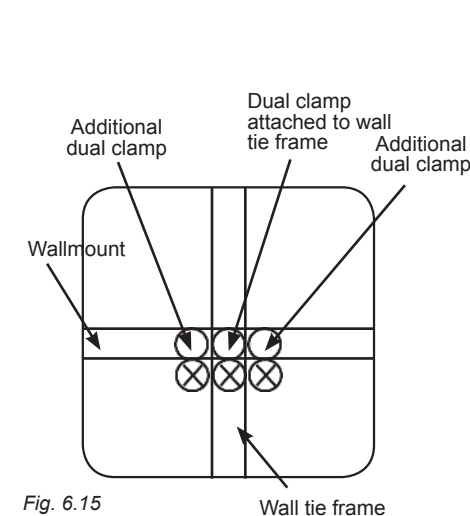

Fig. 6.15
- 7- In a configuration using 3 planks or more, back or forward extensions, long outriggers or weather protection, attach additional dual clamps on the wallmount in front and behind the wall tie frame dual clamp previously installed (fig. 6.15). Make sure all bolts are tightened. Refer to the *Installation of dual clamps* procedure, on p. 39, for more information.
In a configuration using 3 planks or more, back or forward extensions, long outriggers or weather protection, the tension / compression factor is highly increased. In such situations, it is **mandatory** to attach an additional dual clamp **inside** and **outside** the wall tie frame (see fig. 6.15).
- 2- Install additional dual clamps on the wallmount tube inside and outside the wall tie frame, making sure the distance between each dual clamp does not exceed 1/4" (0.6 cm) (fig. 6.15 and 6.16).